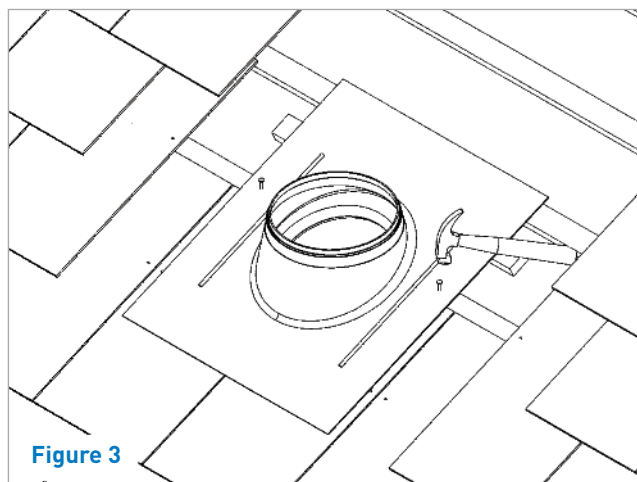

Figure 3
11. Position the mounting unit in its correct location ensuring that it is fully supported on the battens and that it is correctly aligned to enable the top tube to be fully inserted through the hole in the underlay. Fix into place by nailing through into the battens (Figure 3).